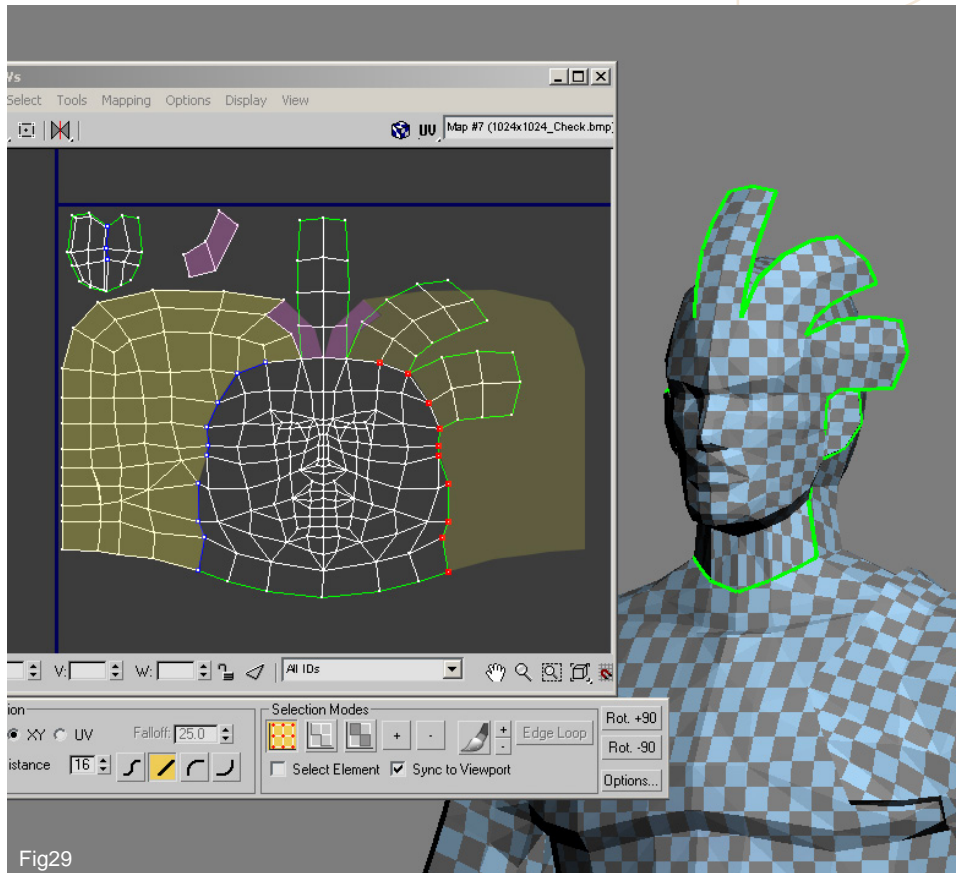

Fig29
29. In order to save even more texture space select the row of verts highlighted in red in Fig 29 and Break them. Now move the right element of the head over to the left and overlay it with the area marked in green by flipping it horizontally. The reason is that this section of the head will be under the hair and therefore carry little detail and so can be symmetrical. More importantly the face area which is the focal point can still look different on both sides as it is mapped in its entirety. The two small purple poly's should also be broken from the main lattice and overlapped to make way for the three hair pieces which you can see have been welded to the forehead on the right. The purple and green areas showing the vertices now represent both halves of the head thus saving space which means that we can now paint a smooth transition between the face and hair line. The three hair poly's on the right of the face represent all five front pieces and mean we are also saving more space.